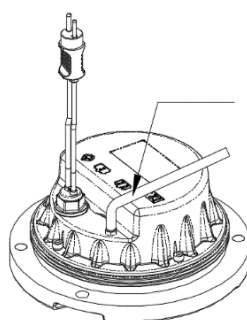

Figure 5-33
- Prepare 138Kpa air source (the air pressure shall not be greater than 150Kpa) and applicable air gun (air tube), inflate the air by aiming at the valve (Figure 5-33) until the air pressure in the lighting fixture meets the requirements. Put this lighting fixture into the water with the depth of 76mm for at least 1min and check whether there are bubbles under the state of static water surface. If not, it means that the sealing property of the lighting fixture is good, otherwise it shall be deemed that the lighting fixture has leakage.